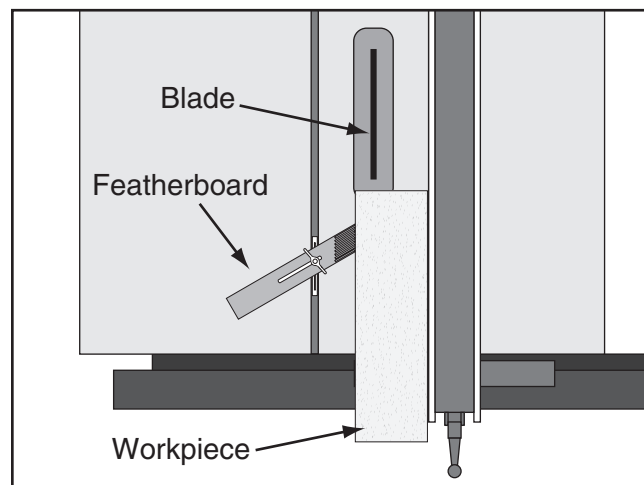

Figure 110. Featherboard installed in miter slot and supporting workpiece for ripping cut.
3. Slide the featherboard miter bar into the miter slot, making sure the fingers slant toward the blade, as shown in **Figure 110**.